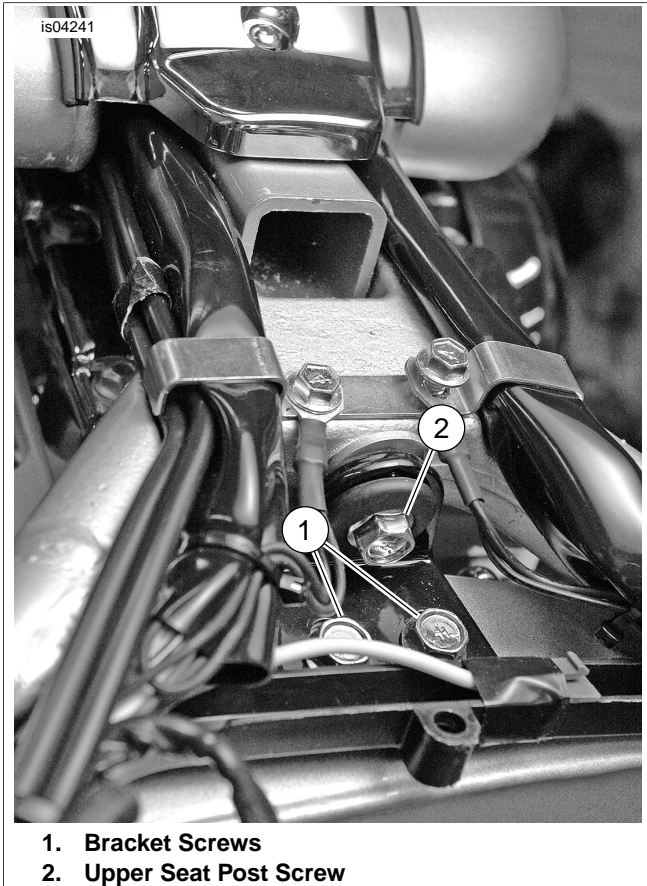

Figure 3. Upper Seat Post Fasteners
6. See Figure 3. Loosen the bracket screws (1). Remove seat post screw (2) and seat post with ignition coil and cover.
4. See Figure 3. Attach upper seat post with screw (2). Tighten screw (2) to 12-15 ft-lbs (16.2-20.3 Nm). Tighten bracket screws (1) to 12-15 (16.2-20.3 Nm).